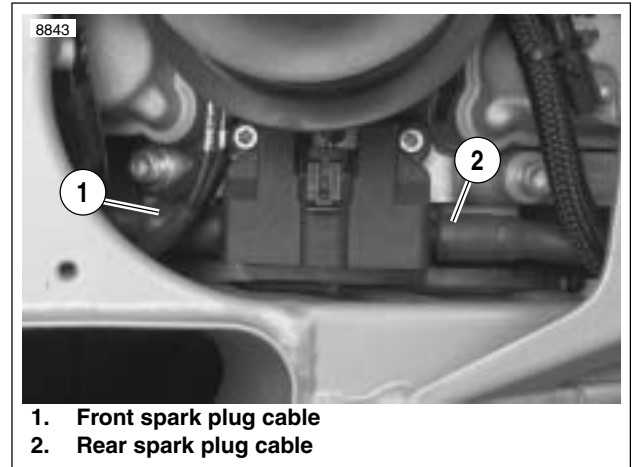

Figure 7-8. Spark Plug Cable Location
2. See Figure 7-8. Disconnect spark plug cables from ignition coil and spark plug terminals. Inspect cables for damage.